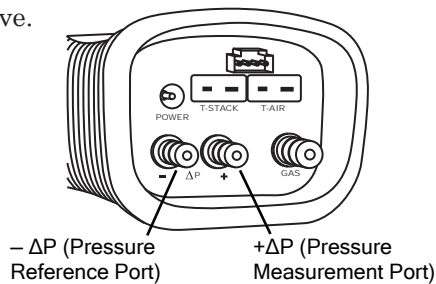

Figure 4-2. Draft/Pressure Measurement Hose Connections
- Reconnect any hoses. When measuring draft, simply leave the  $-\Delta P$  port open to the atmosphere and connect the probe's draft hose to the  $+\Delta P$  port (see Figure 4-2).